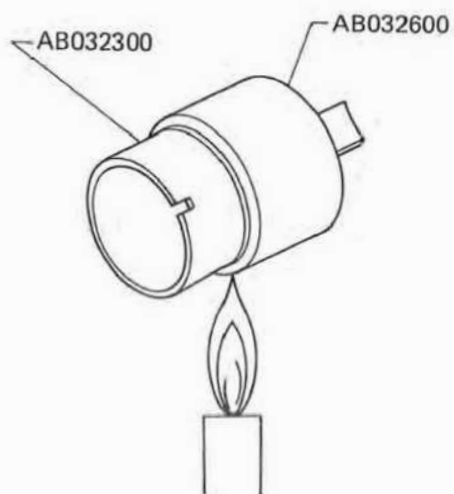

Fig. 10-13
(See Fig. 10-13)
- b) Remove Adhesive by heating it as shown in Fig. 10-13.